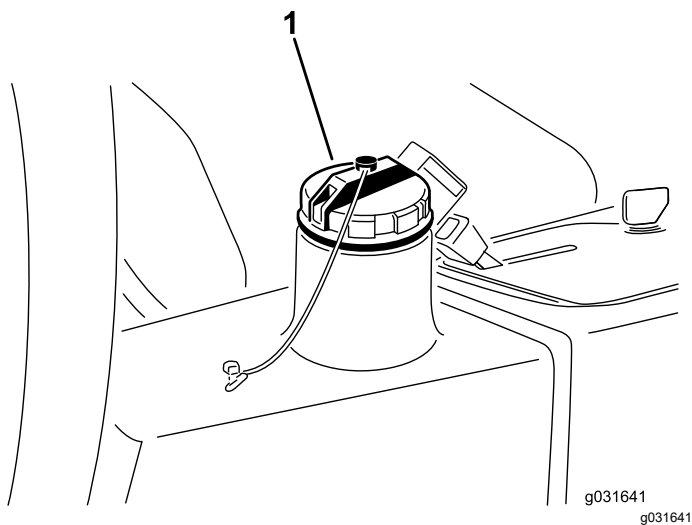

Figure 65
4. Fill the reservoir (Figure 65) with approximately 13.2 L (3.5 US gallons) of hydraulic fluid; refer to Hydraulic Fluid Specifications (page 52) and Checking the Hydraulic Fluid Level (page 53).